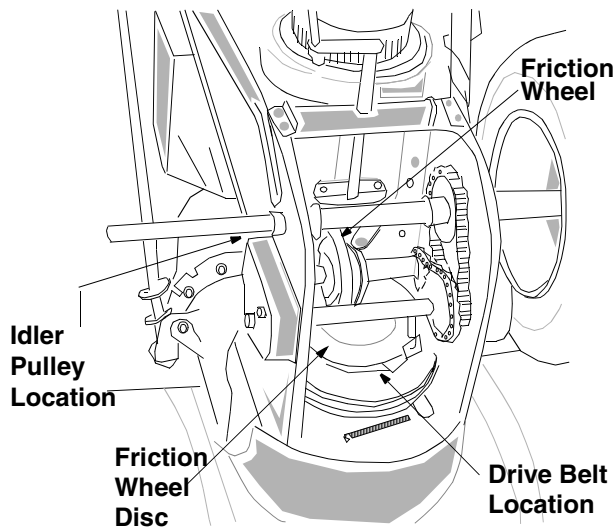

Figure 20
- Working from the underside of the frame, slip belt between the friction wheel and the friction wheel disc. See Figure 20. You may have to twist the belt flat in order to slide it through the clearance between the friction wheel and the friction wheel disc. Remove the belt completely.